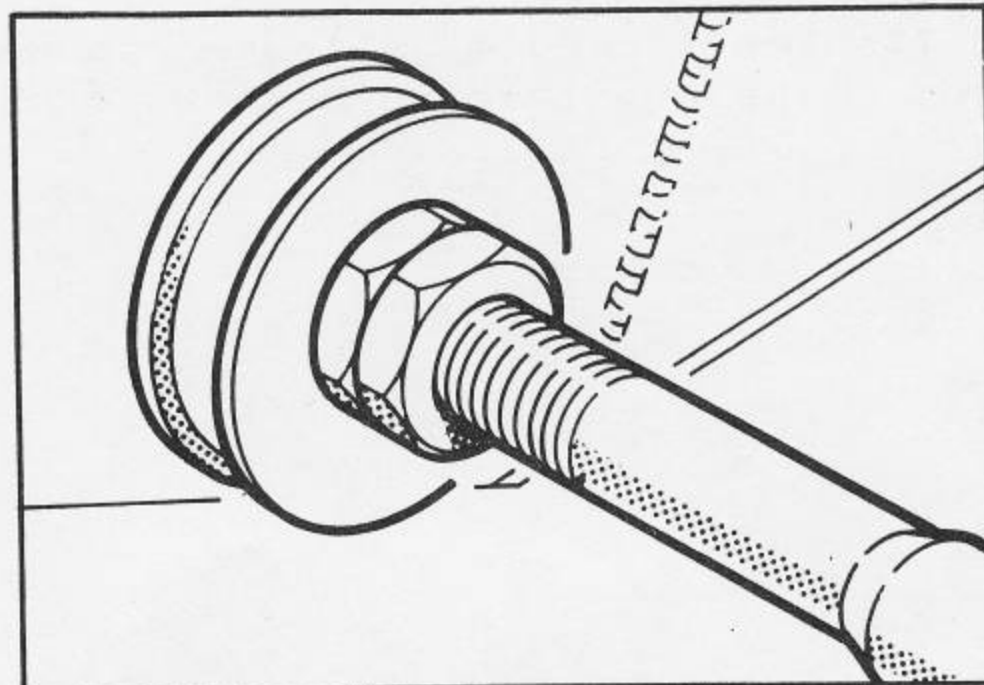

Fig.7 Rear link locknut.
3. When the correct angle is obtained tighten the rear locknut up and torque the front nut to 35 - 40 FT. LBS. Fig.7